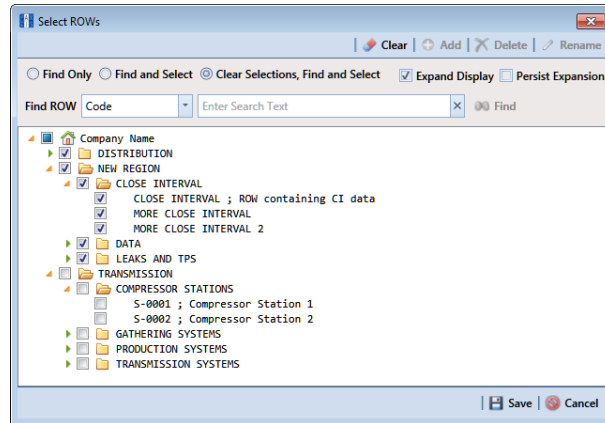

Figure 7-132. Select ROWs
- 1 Select one or more pipeline segments in the *Select ROWs* window (Figure 7-132). Click  **Save** to close the window.